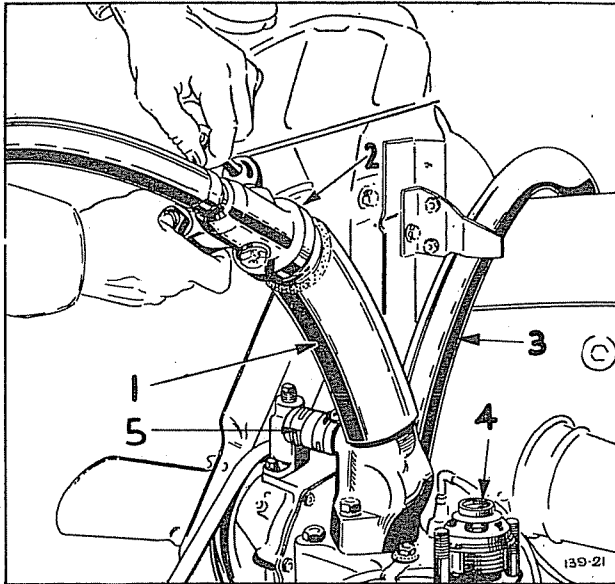

Fig. 4—Flushing Cylinder Block with Flushing Gun
- (3) Remove cylinder head water outlet elbow from the cylinder head and take out the thermostat. Plug the by-pass elbow with a cork and instal elbow.
- (4) Remove water hose from the radiator outlet bottom.
- (5) Attach flushing gun to the hose on the engine water outlet elbow at the top of the cylinder head. (Figure 4).